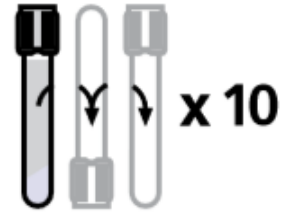

Figure 2. Tube inversion
- a. Immediately invert tubes containing anticoagulant (i.e. all *except* serum separator (tiger top)). See **Figure 2**.
- c. Invert each tube slowly and gently 10 times. See **Figure 2**.
Invert all tubes, except serum separator tube (tiger top), as per the collection instructions (section 3.1.2). Tubes are inverted slowly and gently; DO NOT SHAKE TUBES. See **Figure 2** and the ‘Collection Instructions’ column in **Table 4**.